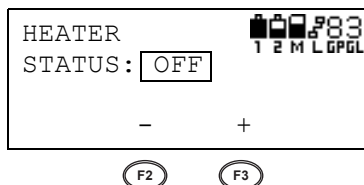

Figure 3-144. Set Heater
- On the Heater screen, use the **F2/F3** (-/+) buttons to set the heater at either ON or OFF (Figure 3-144). See “Selecting Parameters” on page 3-10 for details on changing parameters.